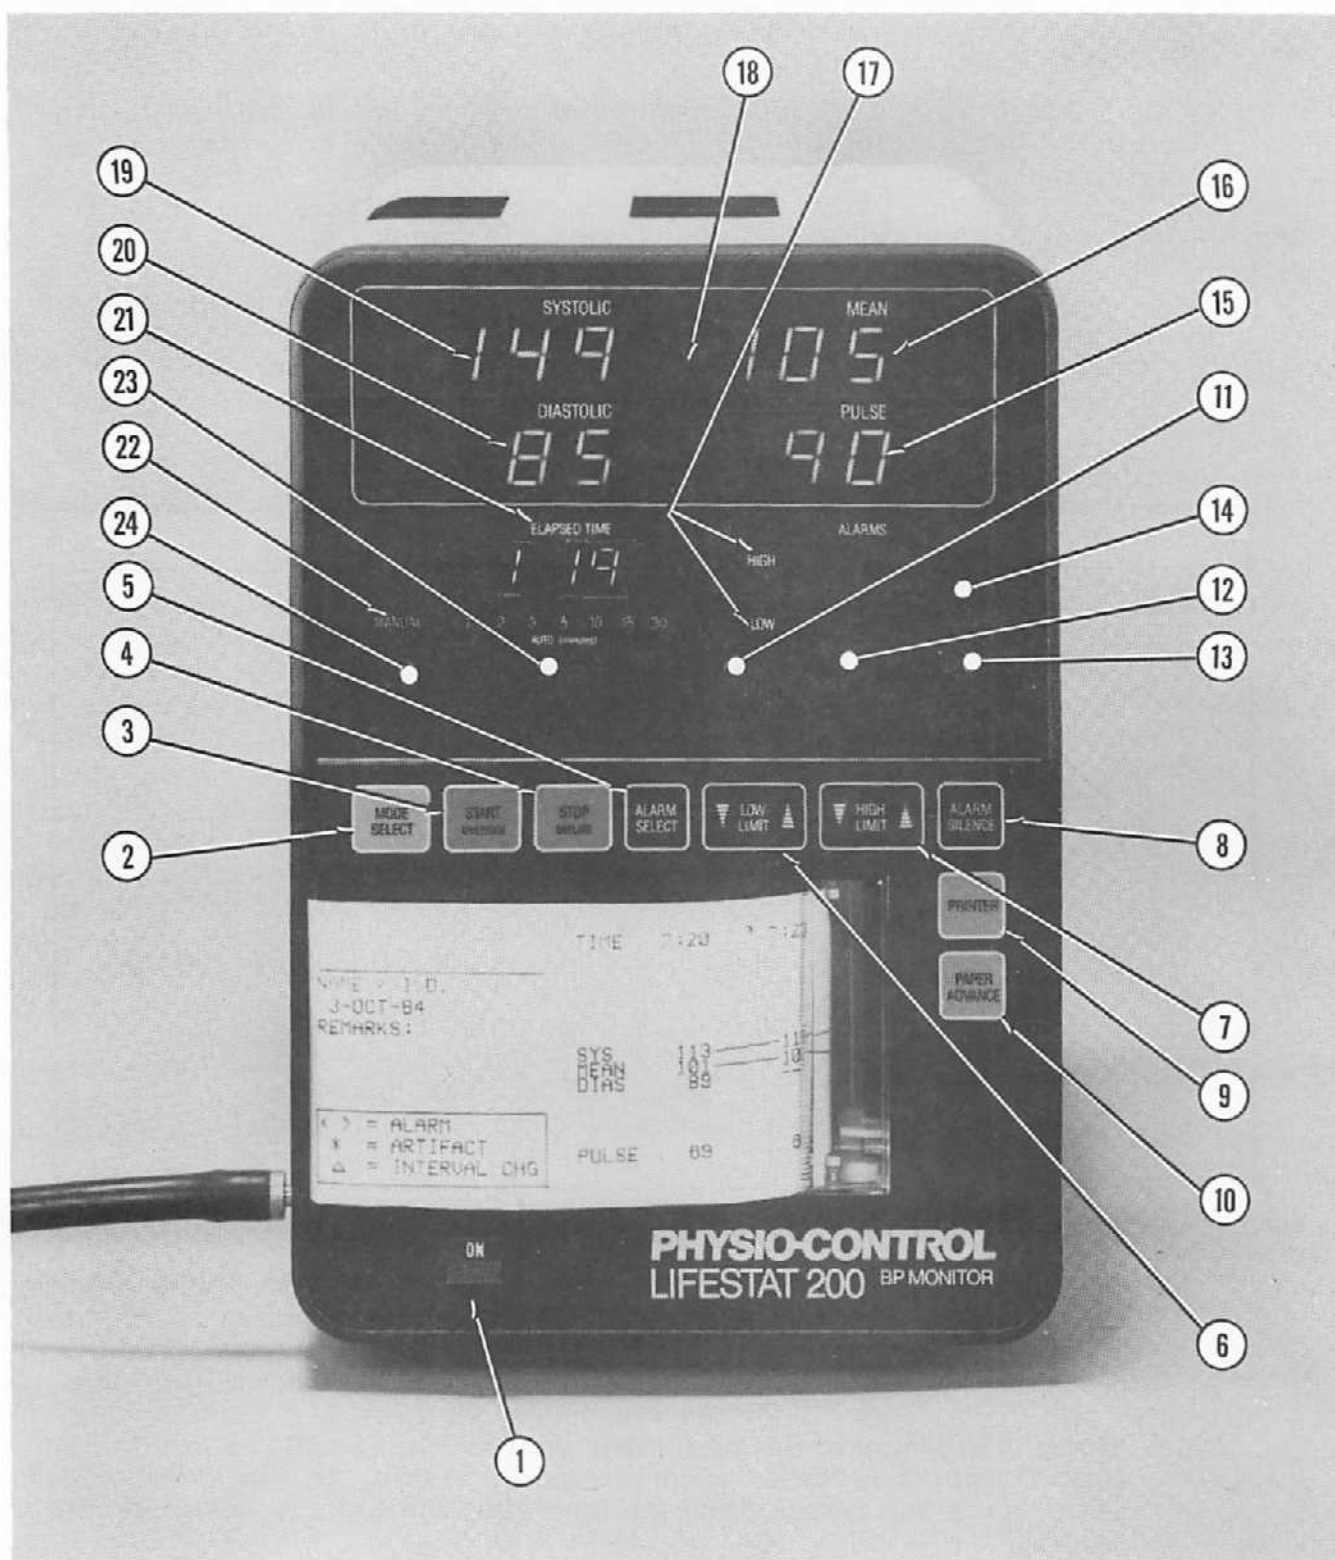

FIGURE 2-1. LS 200 FRONT PANEL CONTROLS AND INDICATORS
- A. The controls and indicators on the Front Panel and Hidden Panel are shown in Figures 2-1 and 2-2. Each item is keyed on the figure to a corresponding listing in Table 2-2 or 2-3. These tables give the nomenclature and briefly describe the function of each item.